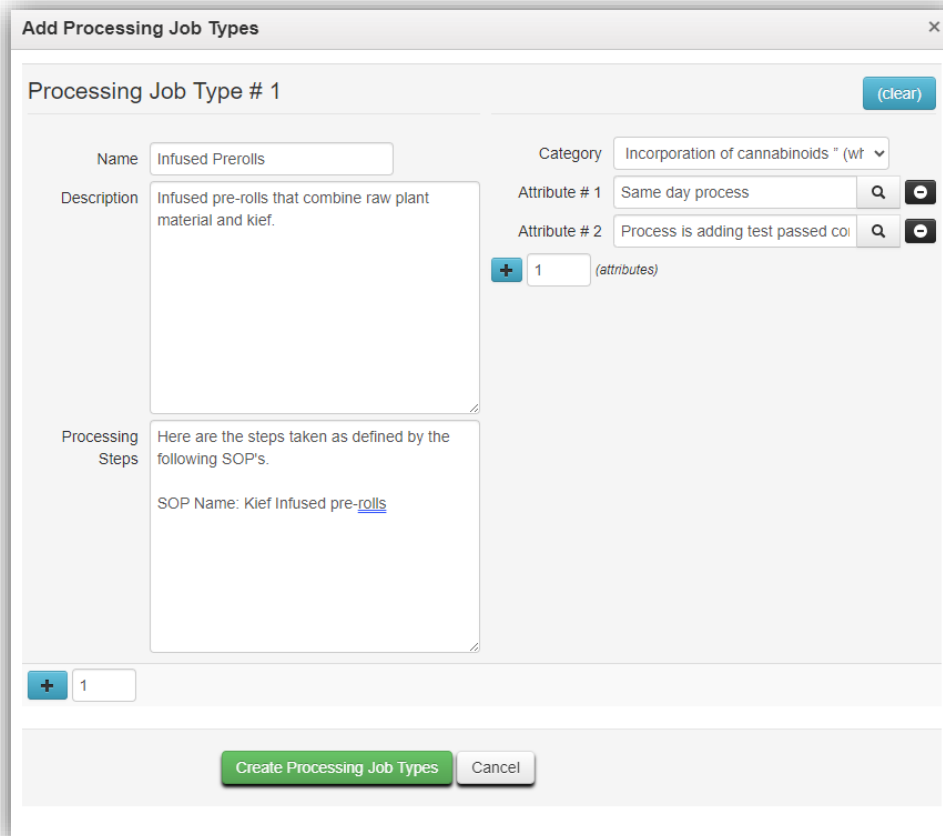

Figure 6: Add Processing Job Types action window
- All the following fields in the Add Processing Job Types action window must be completed – see Figure 6.